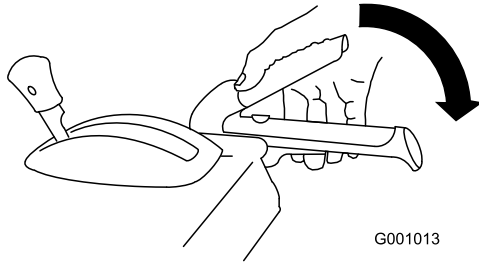

Figure 31
1. To engage the auger/impeller drive, squeeze the right hand (auger/impeller) lever to the handgrip (Figure 31).